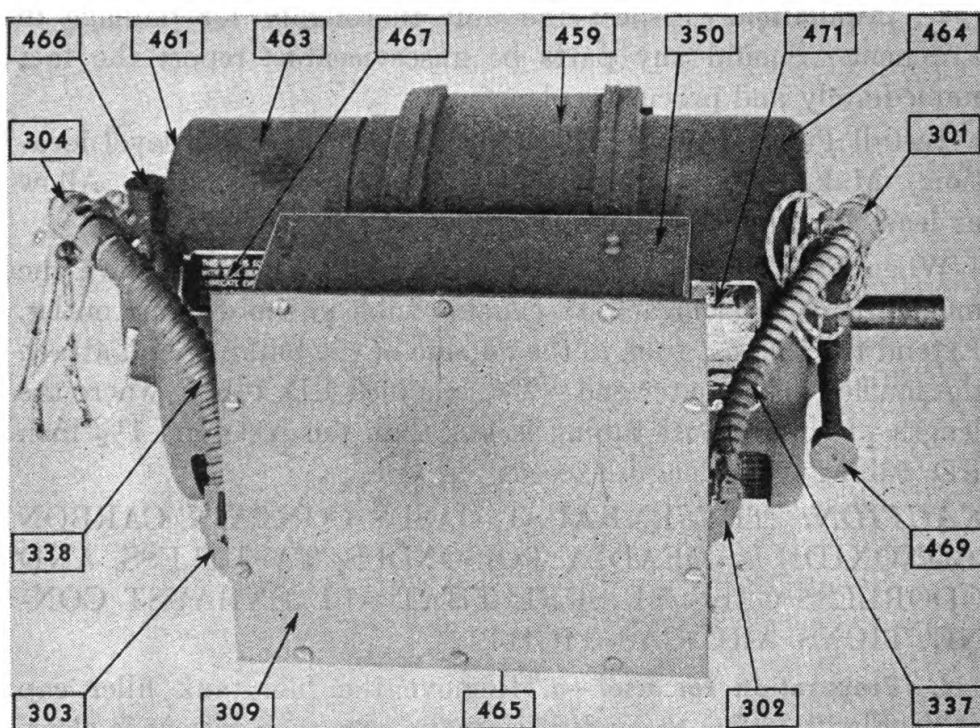
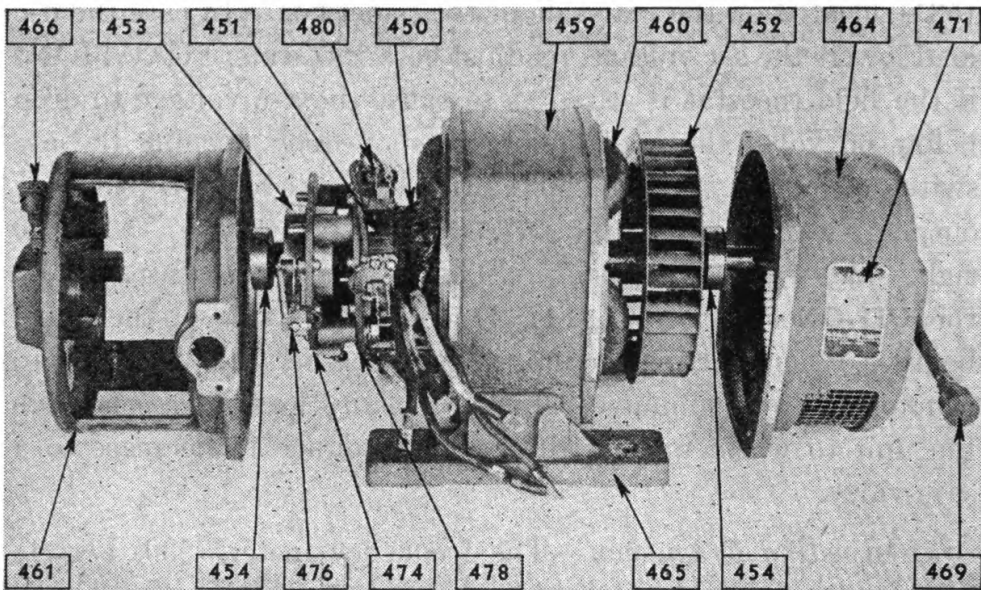

FIG 5. GENERATOR—ASSEMBLED
FIG. 6. GENERATOR—DISASSEMBLED
b. Generator.—The generator (Fig. 5) is a Leland Electric Company, dual voltage, Type A, developing 1000 watts, 100% power factor, single phase, 60-cycle, 115-volt, alternating current and 300 watts, 14.6-volt, direct current at 1800 rpm, 50°C temperature rise. The generator speed is approximately 1850 rpm no load and 1780 rpm full load.
Remove cover plate (463, Fig. 5) and inspect brushes every 300 hours of operation. If the brush springs ride on the brush holders, or the condition of the brushes is poor, new brushes should be installed. Turn the armature (450, Fig. 6) by hand and examine the condition of the commutator (451) and the collector rings (453) which should always be clean and smooth. Check the condition of all wiring and all soldered connections in line filter box (350). Turn down grease cups (466 and 469, Fig. 5). Refill if necessary. Use lubricant which meets the requirements of U. S. Army Specification 2-108. The generator should be kept clean at all times. Keep the unit away from dust if possible. Don't let dirt and oil collect on brush holder rigging, commutator, or collector rings.
a. Test for short circuited condenser by stopping the engine and removing the filter box (350) from the generator. Disconnect condenser leads. Attach one terminal of a d-c lamp circuit or an ohmmeter to one of the condenser leads and ground the other terminal against the condenser case. A short will be shown if the lamp lights or the ohmmeter registers.
c. Voltage output of 120 volts can be determined by removing the cover plate (463) from the generator. With the engine running and the filter box still disconnected, take a reading across the a-c output brushes (476) on the two slip rings (453). If there is no a-c output, check the d-c brush (480) voltage across